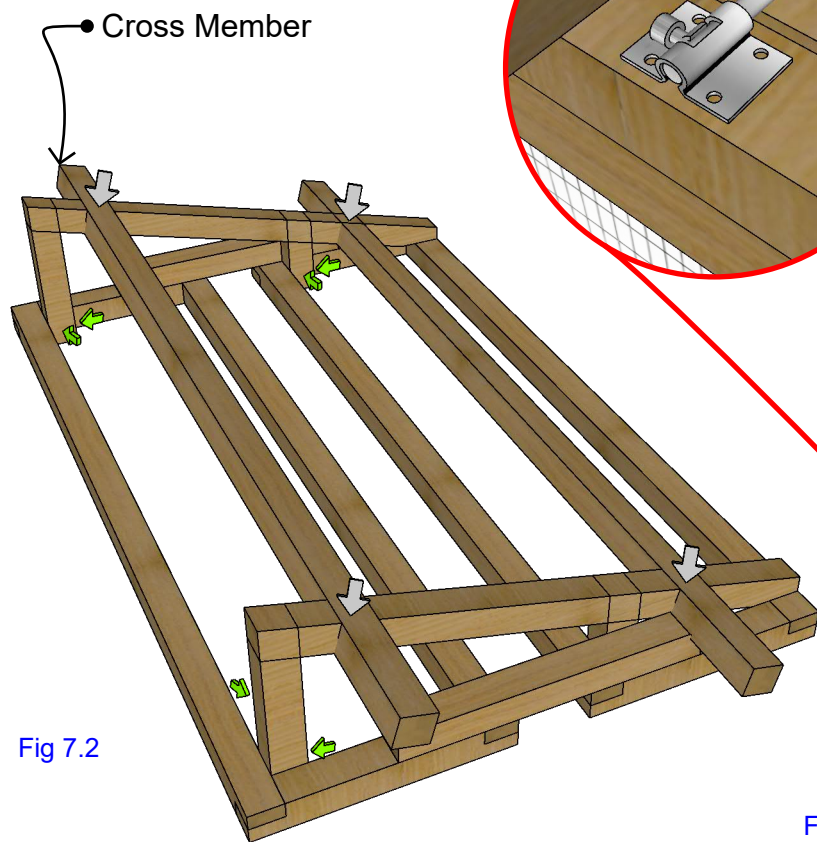

Fig 7.2
7.2 Install Supports: Using T25 screws, screw in each bottom leg of supports into corners of frame assembly as illustrated in Fig 7.2. Two screws go in each corner. Insert cross members into slots and affix with one T-20 1-5/8" screw in each position as indicated by grey arrows.